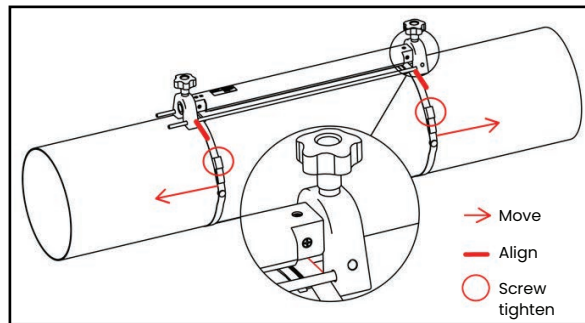

Figure 11: 2 Traverse installation with 1 clamp-on fixture
- c. Hold the fixture against the pipe and move the mounting straps onto the fixture. Then, tighten the screws on the straps, and verify that the straps remain in place on the fixture (see *Figure 11 below*).